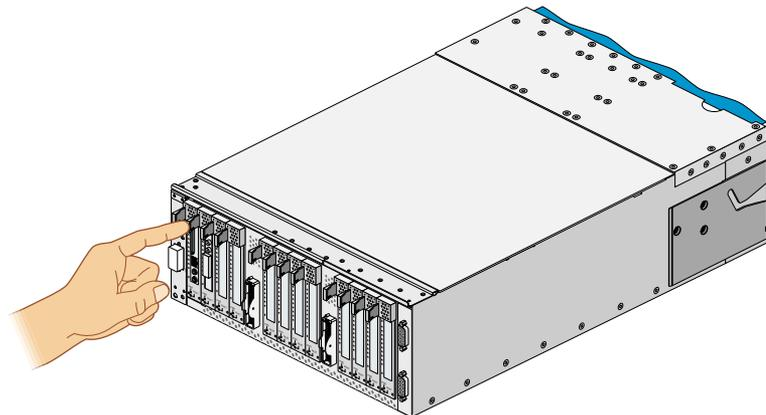

Figure 16 Seating the Card in the Slot
7. Push horizontally on the seating bar, as shown in Figure 16, to seat the card securely in the slot.